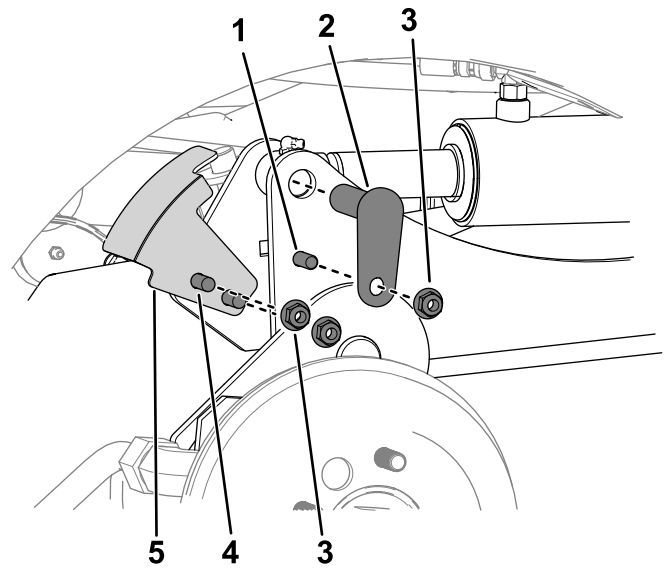

Figure 3
- B. Remove the 2 carriage bolts and 2 nuts (3/8 inch) that secure the sensor bracket to the right lift arm (Figure 3).
- C. Remove the 2 bolts (3/8 x 1-1/4 inches), 2 nuts (3/8 inch), and 2 small pins that secure the lift arms to the cylinders (Figure 3).